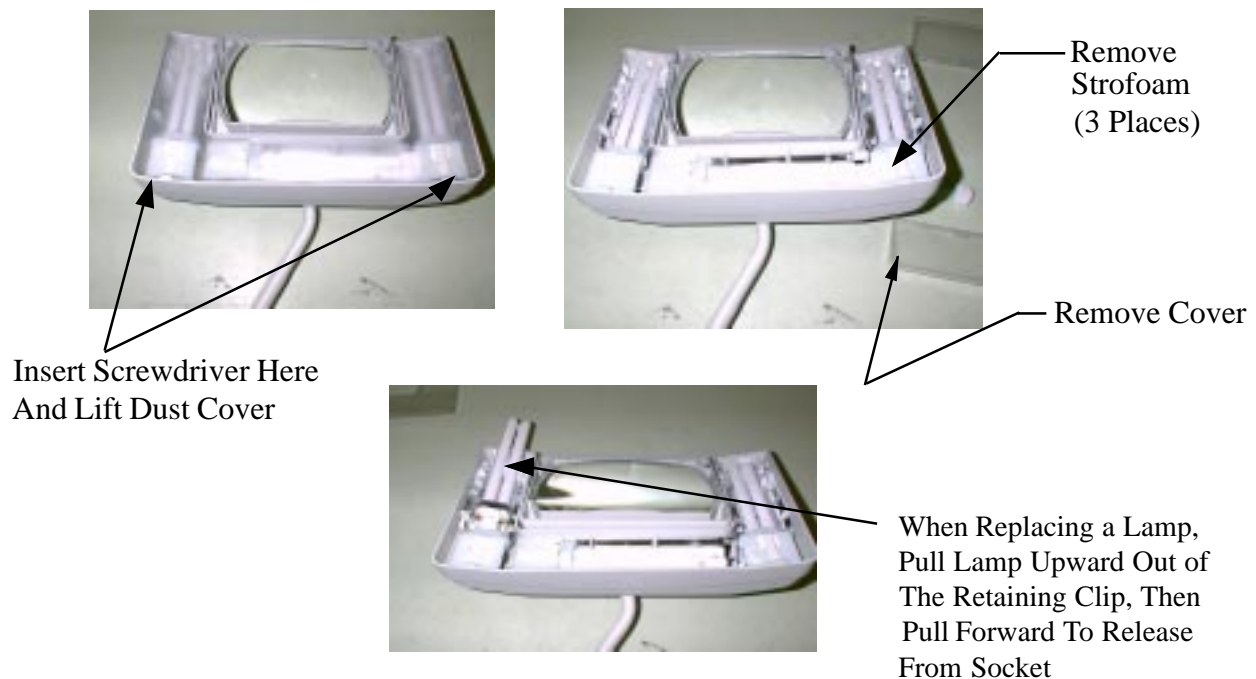

FIGURE 5
- (See Figure 5) Using a small flat-bladed screwdriver, lift the dust cover from its holding clips and remove it. Remove and discard the Styrofoam blocks next to each lamp. These were used to secure the lamps for transport. Replace the dust cover.
2. (See Figure 5) Using a small flat-bladed screwdriver, lift the dust cover from its holding clips and remove it.